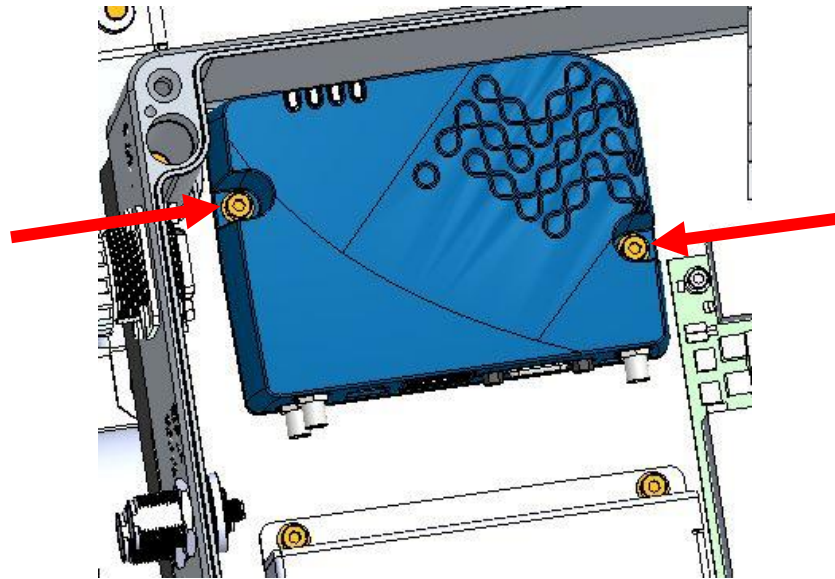

Figure 9 Open the lid of the RV50 cellular modem box
- Unscrew the two screws that anchor the RV50 cellular modem (see Figure 9).